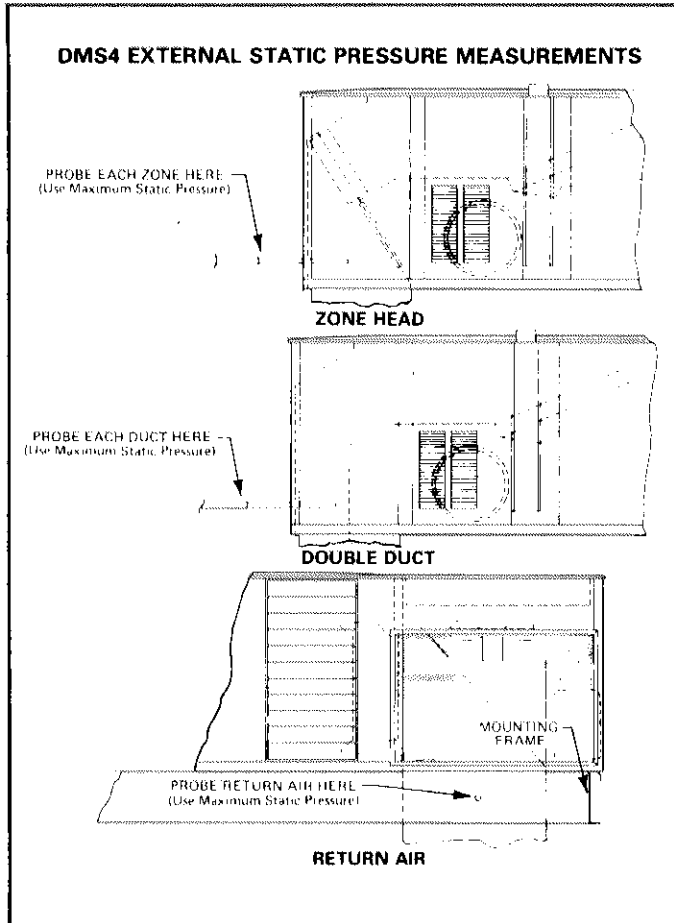

FIGURE 91
- 2 - Take external static pressures at locations specified in Figure 91.